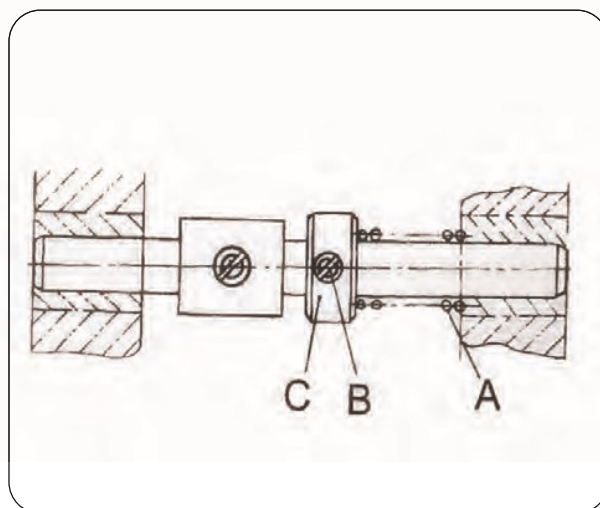
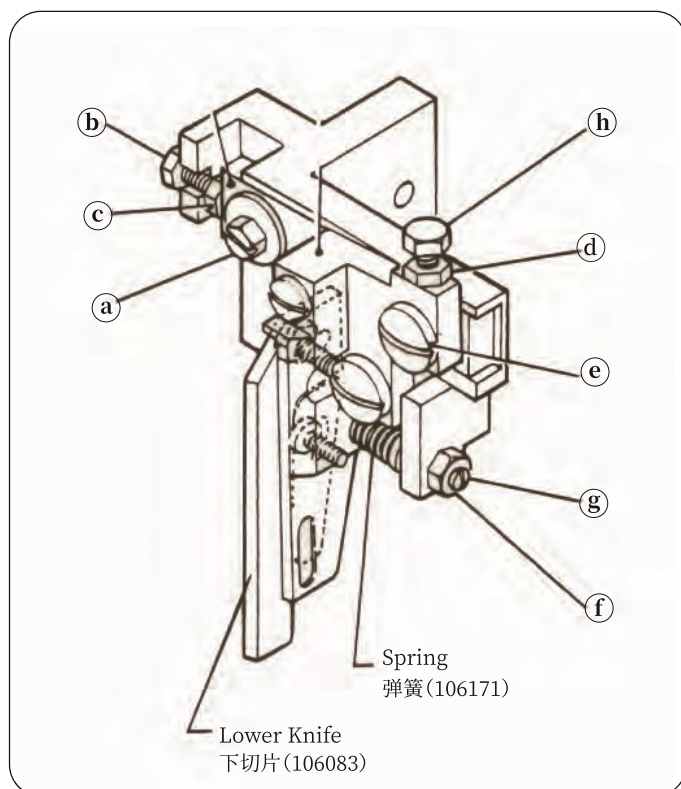
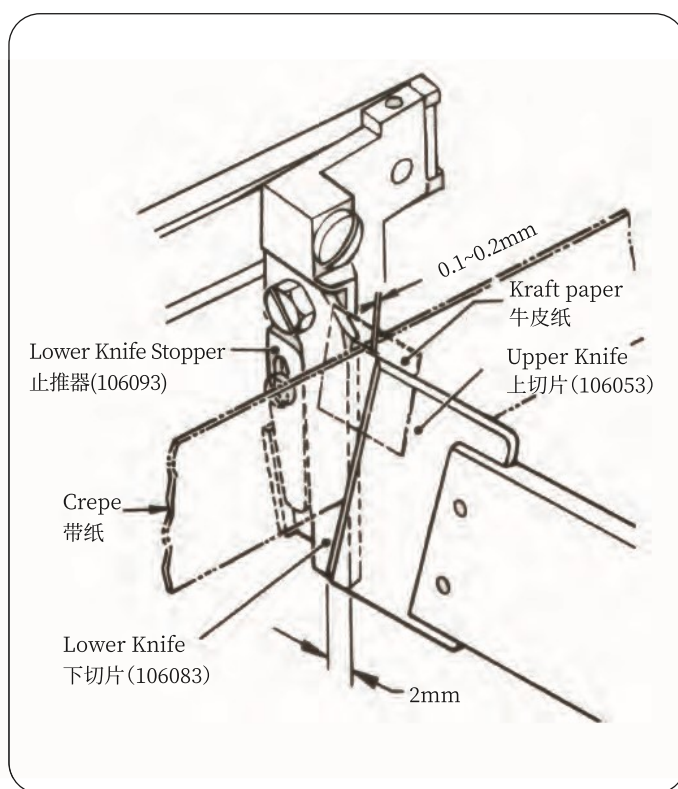

Fig.13
Fig.14
Fig.15
The lateral pressure between the knife and the cutting steel is activated by the spring A(Fig. 13). And it is determined by actual requirement in thread chain cutting. For adjustment, loosen the collar C of spring and screw B, increase or decrease the pressure as required, then retighten screw B.
切刀动片与切刀定片之间的侧向压力是由弹簧 A(图 13)产生的,其压力大小应根据切割线辫时的实际需要而定。调节时拧松弹簧挡圈 C 上的螺钉 B 进行减少或增大压力调节,调整后重新拧紧螺钉 B。
- Here, prior to lowering the upper blade, loosen screw ① and ②, and the nuts ③ and ④ shown in (Fig.13). When both blades are occluded, allow a gap of 0.1 to 0.2mm between the faces of the two blades on the rear side, and tighten the screw ① and the nut ④. The gap adjustment can be easily made placing a sheet of kraft paper between the upper and lower blades, as show in Fig.14.
- After the setting described in ① above, where the screw h is in light contract with the screw ⑤, tighten the nut ④.
(9) 气动式线辫切刀调节
- 用手移动上刀片(106053),当上下刀啮合时,其刀片后侧配合间隙为 0.1~0.2mm(在上刀和下刀之间应当可以顺畅的插入或抽出一张牛皮纸),如果需要下降上刀片,放松螺钉①和②,还要放松螺母③和④,如图 14 所示,调整好上下刀之间的间隙后,拧紧螺丝①和螺母④。
- 按照以上①调整后,将螺钉⑤拧到和螺钉轻轻接触时,拧紧螺母④。
- c. After the adjustment by steps ① and ②, cut a crepe tape or thread for test.
- * If the front end of the cutter cuts but the rear end does not, there is gap on the rear side. In this case, loosen the nut ④ and loosen the screw ⑤ by 1/8 turn, and cut the thread again for test. If it still does not cut, loosen the screw ⑤ by another 1/8 turn and repeat this adjustment and test cut until the thread can be cut, and then retighten the nut ④.
- * If the lower blade tends to turn away without cutting, loosen the nut ⑥ and increase the pressure of the spring by turning the screw ⑦ clockwise (Fig.14).
- d. Adjust the overlapped depth of the upper and lower blades by changing the length of air cylinder rod end so that the distance between the upper face of the lower blade and the rear side of the upper blade becomes 2mm, as shown in(Fig.15).
- c. 按照以上步骤①和②调整结束后,试切一下皱纹纸或者缝线。
- * 如果切刀前端能切,后端不能切,这是因为后端的间隙太大。这时需要松开螺母④,并将螺钉⑤旋出 1/8 圈,再试切一下皱纹纸或者缝线。如果仍然不能缺,继续将螺钉⑤旋出 1/8 圈,再试切,如此反复知道能切断为止,然后拧紧螺母④。
- * 如果切刀后端能切,前端不能切,说明步骤 a 调整的不到位。再一次调整螺钉⑤,使上、下切刀的间隙为 0.1~0.2mm。
- * 如果试切皱纹纸或者缝线过程中,如果存在下刀让刀的情况,请放松螺母⑥,通过顺时针方向转动螺钉⑦增大弹簧压力,如图 14 所示。
- d. 当上、下切刀全部啮合时,其深度应该为 2mm,如图 15 所示。通过适当改变气缸杆端长度,将上、下刀的啮合深度调整为 2mm。